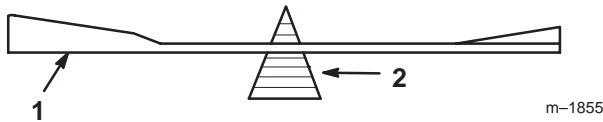

Figure 17
2. Check the balance of the blade by putting it on a blade balancer (Fig. 17). If the blade stays in a horizontal position, the blade is balanced and can be used. If the